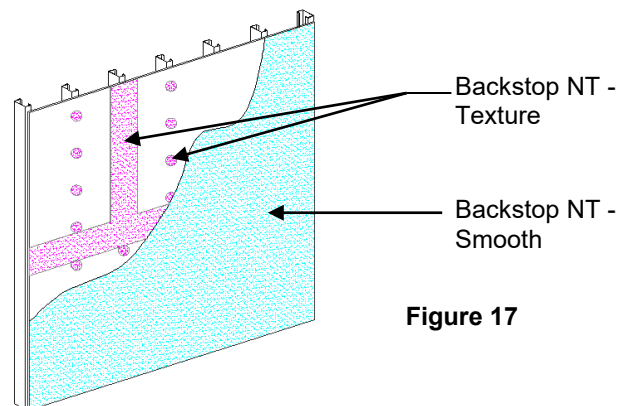

Figure 17
- a. General: Dryvit Backstop NT - Smooth can be applied using a roller or sprayed and back-rolled over the acceptable sheathing substrates. **NOTE: OSB sheathing requires that joints and fasteners be treated with Backstop NT - Texture. A minimum of two (2) coats of Backstop NT - Smooth or Backstop NT – Spray are required for the field of the wall. Backstop NT - Texture is not recommended for application in the field of the board.**
- 2) Backstop NT - Smooth material should be applied in a uniform, continuous film at the recommended coverage rate – Figure 17. **NOTE: Sheathing substrates with a surface texture or high porosity will require additional material.**